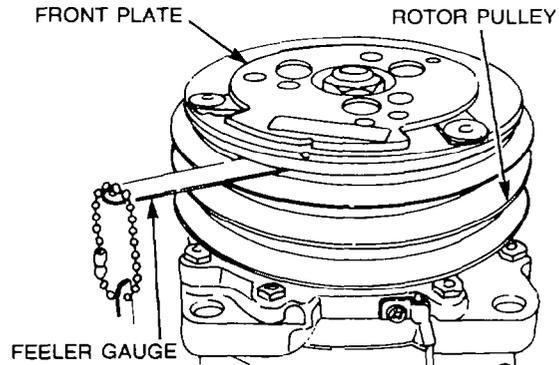

Figure 36 — Front Plate Air Gap — Checking Measurement
- p. Check the air gap with a feeler gauge (see Fig. 36), the measurement should be 0.040-0.078 mm (0.0016-0.0031 in.) consistent around the circumference, if not, lightly pry up at the minimum variations. Lightly tap down at points of maximum variations.